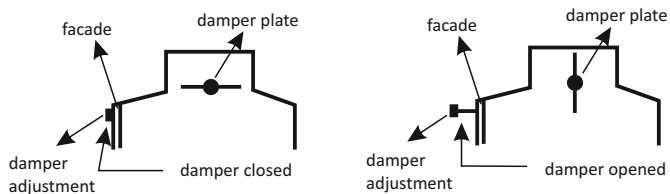

Fig. 5. The example of the damper adjustment
- the handle adjusting the damper, by adjusting the chimney draft, (see fig. 5).